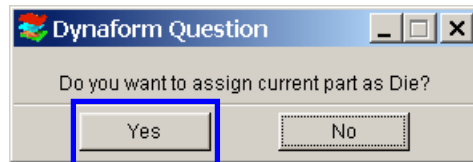

Figure 6.10
- b) Click **Yes** to assign the current part as Die (Figure 6.10)